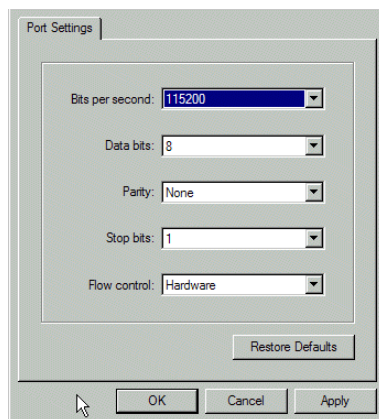

Figure 34: COMn Properties dialog box
6. Ensure the **Connect using** field displays COM1 or COM2 (depending on the serial communication port connection to the director) and click **OK**. The COMn Properties dialog box displays, as shown in Figure 34.